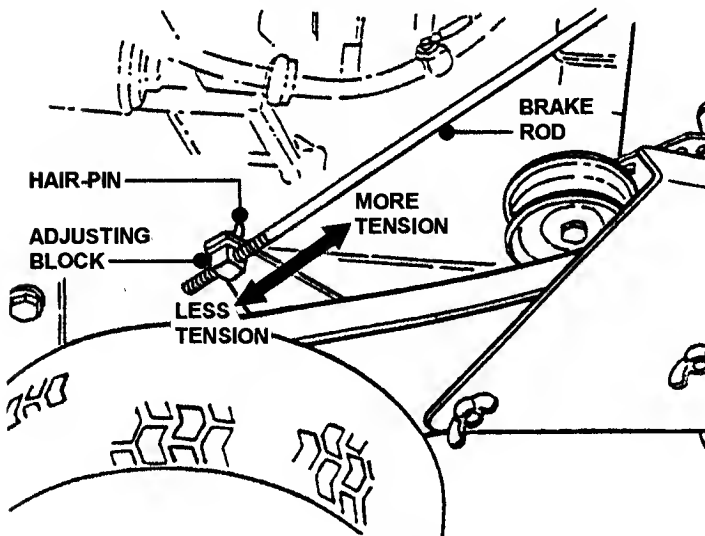

FIGURE 24
4. Pull adjusting block from brake arm and rotate counterclockwise for more tension or clockwise for less tension. See Figure 24.